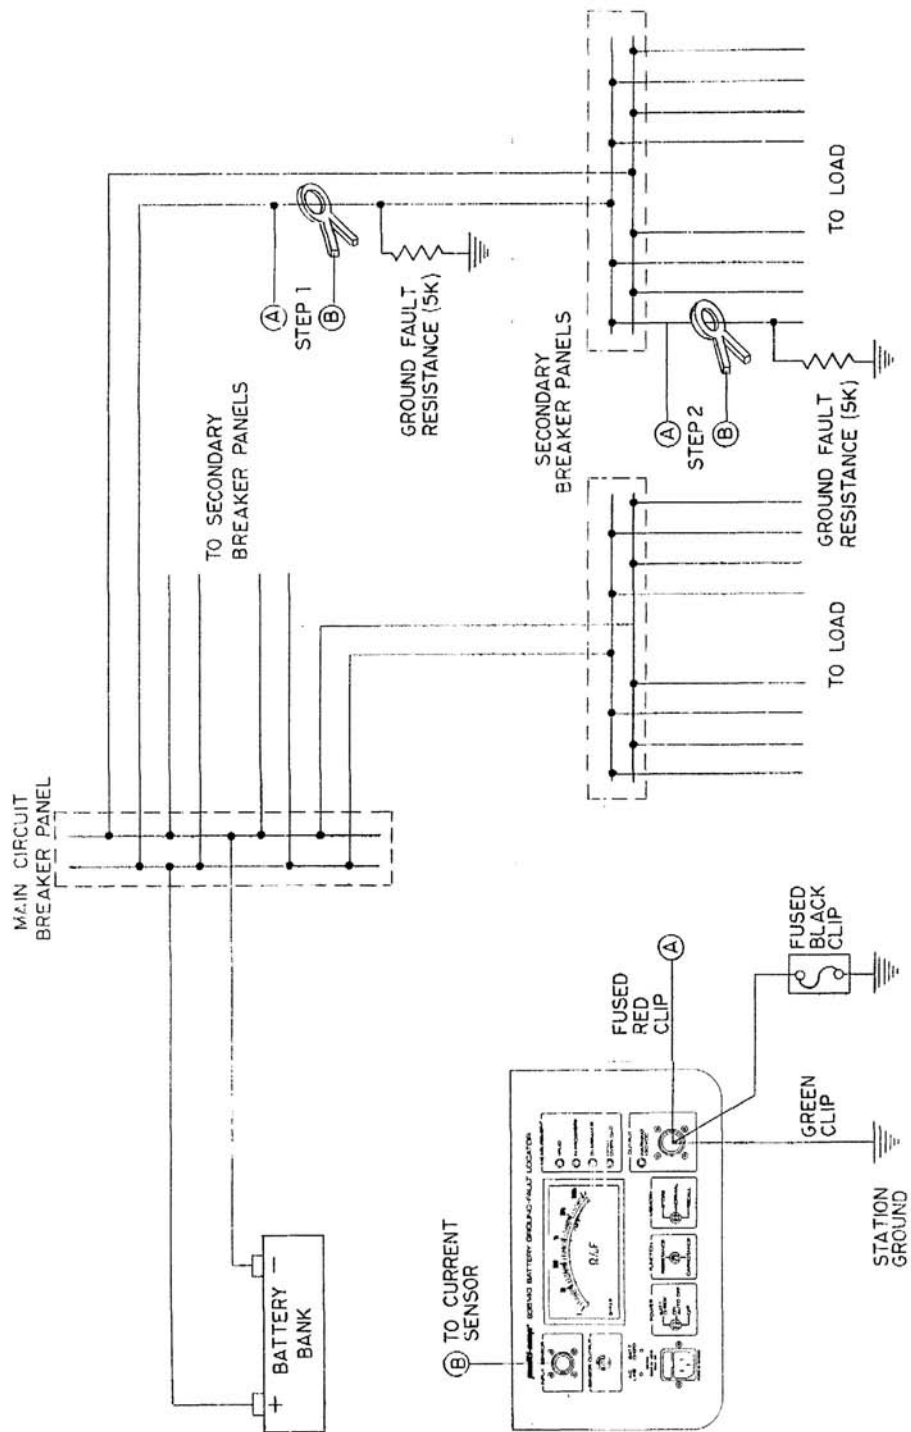

Figure 4-6: Locating Multiple Ground Faults
Refer to Figure 4-6 for further explanation of procedure.
1. Connect Battery Ground Fault Locator as per step 1 in section 4.6, *Procedure for Locating Ground Faults Leads* and C.T. as per Figure 4-6.
1. Connect *red* fused clip as per Figure 4-6, step 2.
2. Clamp C.T. as per Figure 4-6, step 2.